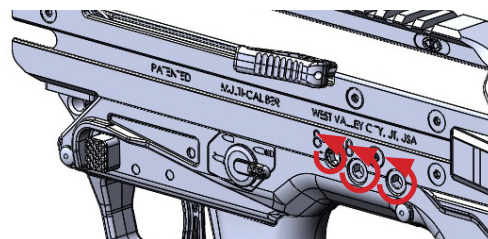

Fig. a-2
- Using the 5mm hex side of the multi-tool, loosen the two barrel retention screws one full turn each and rotate the barrel locking screw to the "Unlock" position. (Fig. a-2)